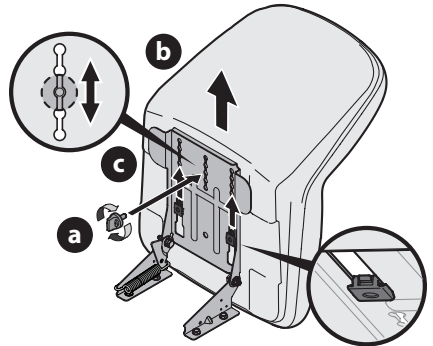

Figure 3
4. Slide the seat (b) rearward in the seat pivot bracket (c), lining up one of the slots in the seat pivot bracket (c) with the hole in the center rear of the seat (b) base (Figure 3).
NOTE: Be certain the two seat tabs engage the seat pivot bracket as shown in the bottom right inset of Figure 3.
5. Select the desired position for the seat (b), and secure with the adjustment knob or 9/16 inch bolt (a) removed in Step 2 (Figure 3).